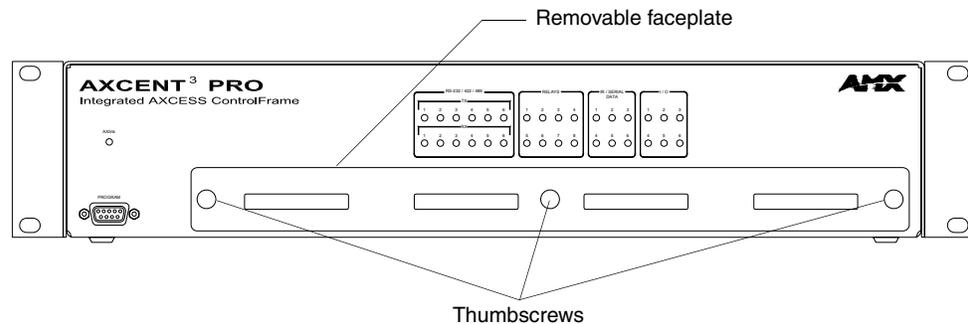

FIG. 1 Axcent³ Pro
2. Remove the thumbscrews and faceplate from the front panel (FIG. 1).